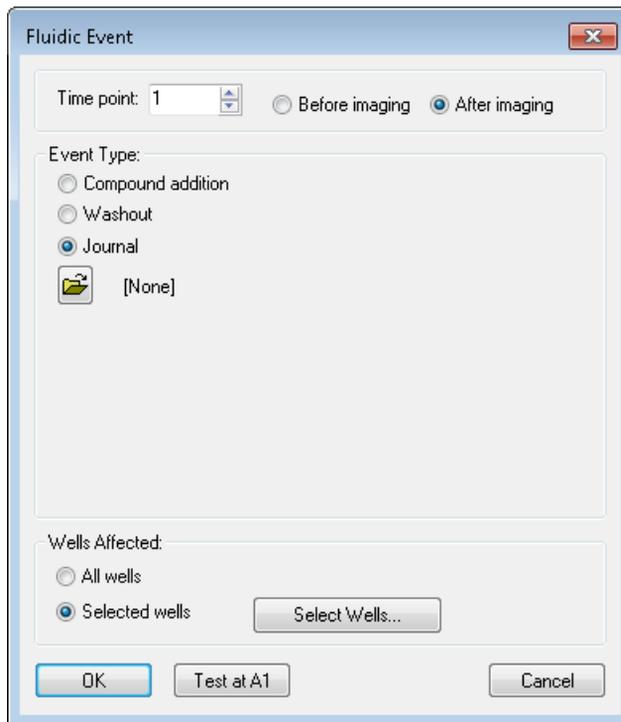

Figure 2-17: Fluidic Event dialog Journal event
- ◆ **Journal:** A Journal event is used for any special cases or custom protocols (for example, experiments not using a one-to-one mapping of wells, or drawing once and dispensing multiple times) as shown in Figure 2-17.